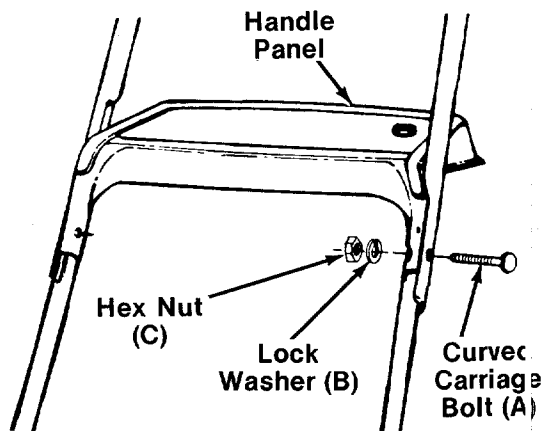

FIGURE 3.
4. Place handle panel and upper handle in position over lower handle. Control housing should be on the **left** side of the handle. Secure upper handle and handle panel with two curved carriage bolts (A), lock washers (B) and hex nuts (C). See figure 3.